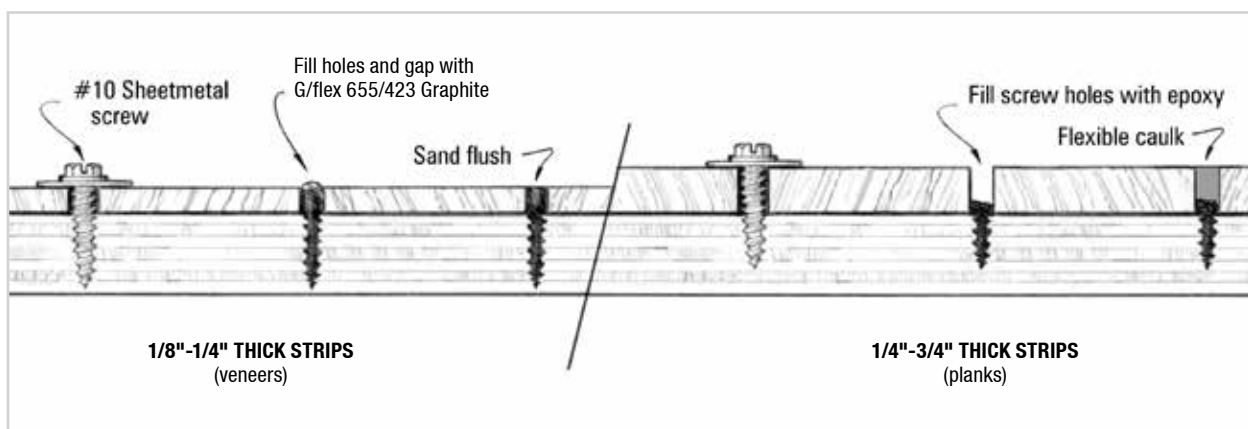

Figure 5-24 Sheet metal screws with large washers will clamp the strips in position until the 655/graphite mixture cures thoroughly.
6. Clamp the plank in place with #10 sheet metal screws and large washers. Place the screws and washers between the strips, 8" apart. Each row of screws will clamp the edges of two adjoining planks and act as spacers (Figure 5-24 left). Coat the screws and washers with a mold release or place a small sheet of plastic under the washers to prevent bonding. Washers may also be cut from stiff plastic, thin wood lathe or similar stock with holes drilled for the screws. Tighten the screws down completely after pushing both adjoining strips tight against the screws. The epoxy mixture
Note: If planks thicker than ¼" are used, do not fill between the planks with thickened epoxy. Instead, remove squeezed-out epoxy between planks and allow to cure. Remove the screws and washers and sand the top surface of the planks fair. Fill the joints with Thiokol or polysulfide caulk (Figure 5-24 right).